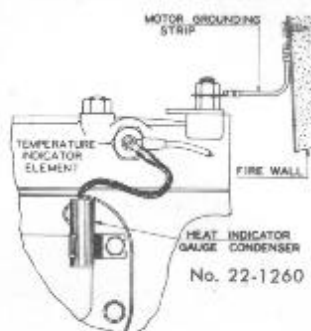

Fig. 7A.
Attach the condenser lead to the water temperature element in the head. (Fig. 7A.)
5. Remove the tape from the hole (located near the left rear cylinder head nut) in the dash. Fasten the flat ground strip to this hole with a sheet metal screw and lock washer. On the six cylinder car, place the other end of the strip on top of the regular stud nut, and fasten it in place with the special nut furnished in the installation kit. (Fig. 7A.) On the eight cylinder cars, bolt the other end of the strap under the regular stud nut. (Fig. 7B.)